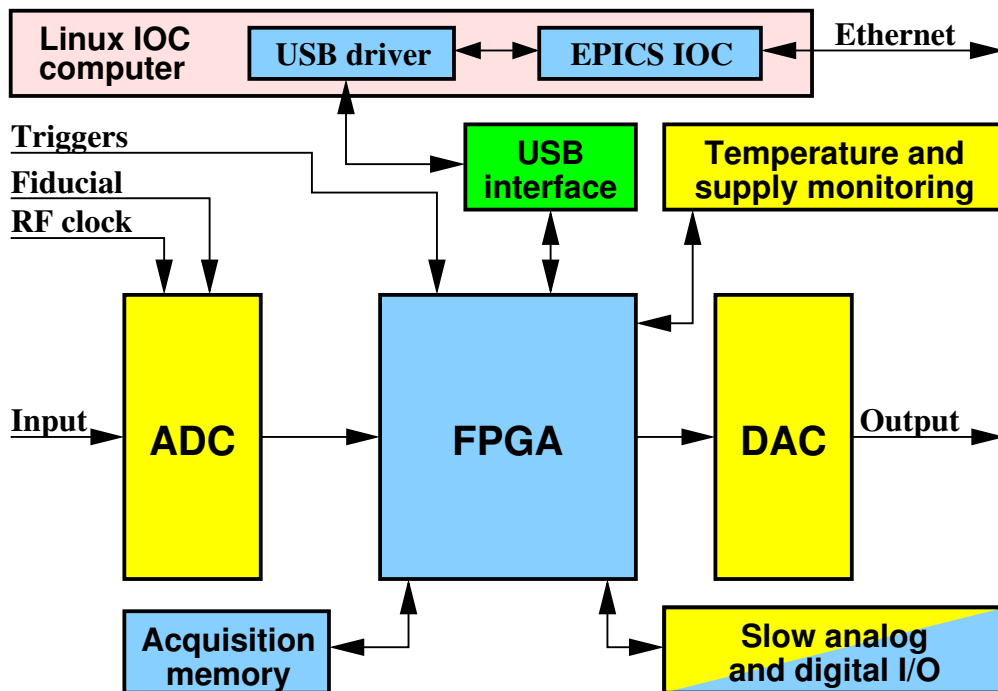

Figure 1: iGp12-1332F block diagram
A top-level block diagram of the iGp12-1332F system is shown in Figure 1. The main signal processing chain consists of a high-speed 12-bit analog-to-digital converter (ADC), a field programmable gate array (FPGA), and a high-speed 12-bit DAC, all driven by the radio frequency (RF) clock. In addition to performing real-time control computations, the FPGA interfaces to a number of on-board devices, such as high-speed data acquisition memory (static random access memory (SRAM)), low-speed analog and digital input/output (I/O), as well as temperature and supply voltage monitors. In turn, the FPGA uses an internal universal serial bus (USB) connection to communicate to an embedded input-output controller (IOC) computer housed in the same chassis. The IOC runs the Linux operating system and is connected to the overall control system via the Ethernet.